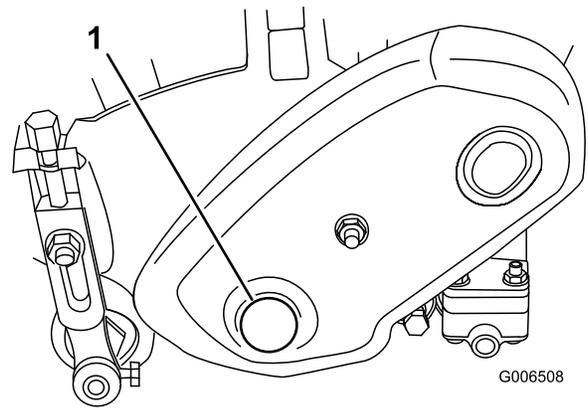

Figure 68
1. Remove plug from the reel drive cover on the left side of reel assembly (Figure 68)